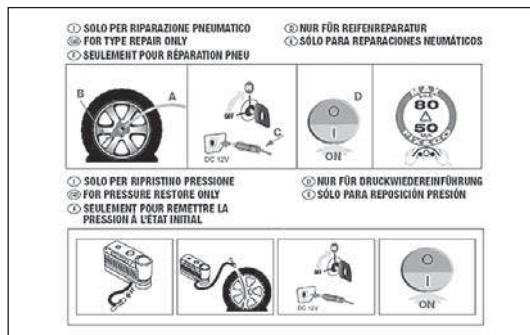

fig. 128
- ☐ informative leaflet (see fig. 128), used to ensure the correct use of the quick tyre repair kit and then given to the personnel who will handle the treated tyre;